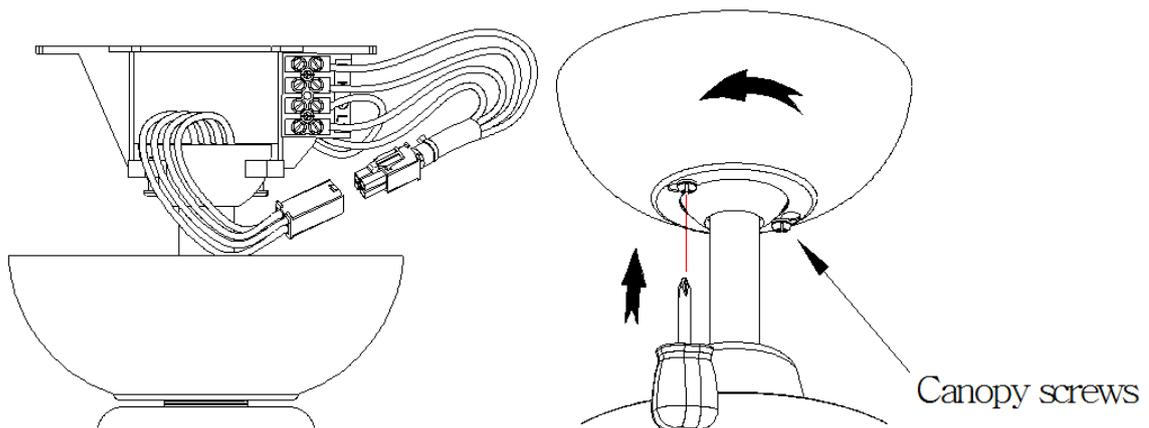

Fig. 4
5. After completing the electrical wiring at the mounting bracket terminal, connecting the ceiling fan and fixed wiring via the quick connector, cover the mounting bracket with the canopy. Ensure all electrical wiring is tucked inside the canopy and that they are not damaged during this step. Secure the canopy to the hanger bracket using the screws provided.Fig.4.